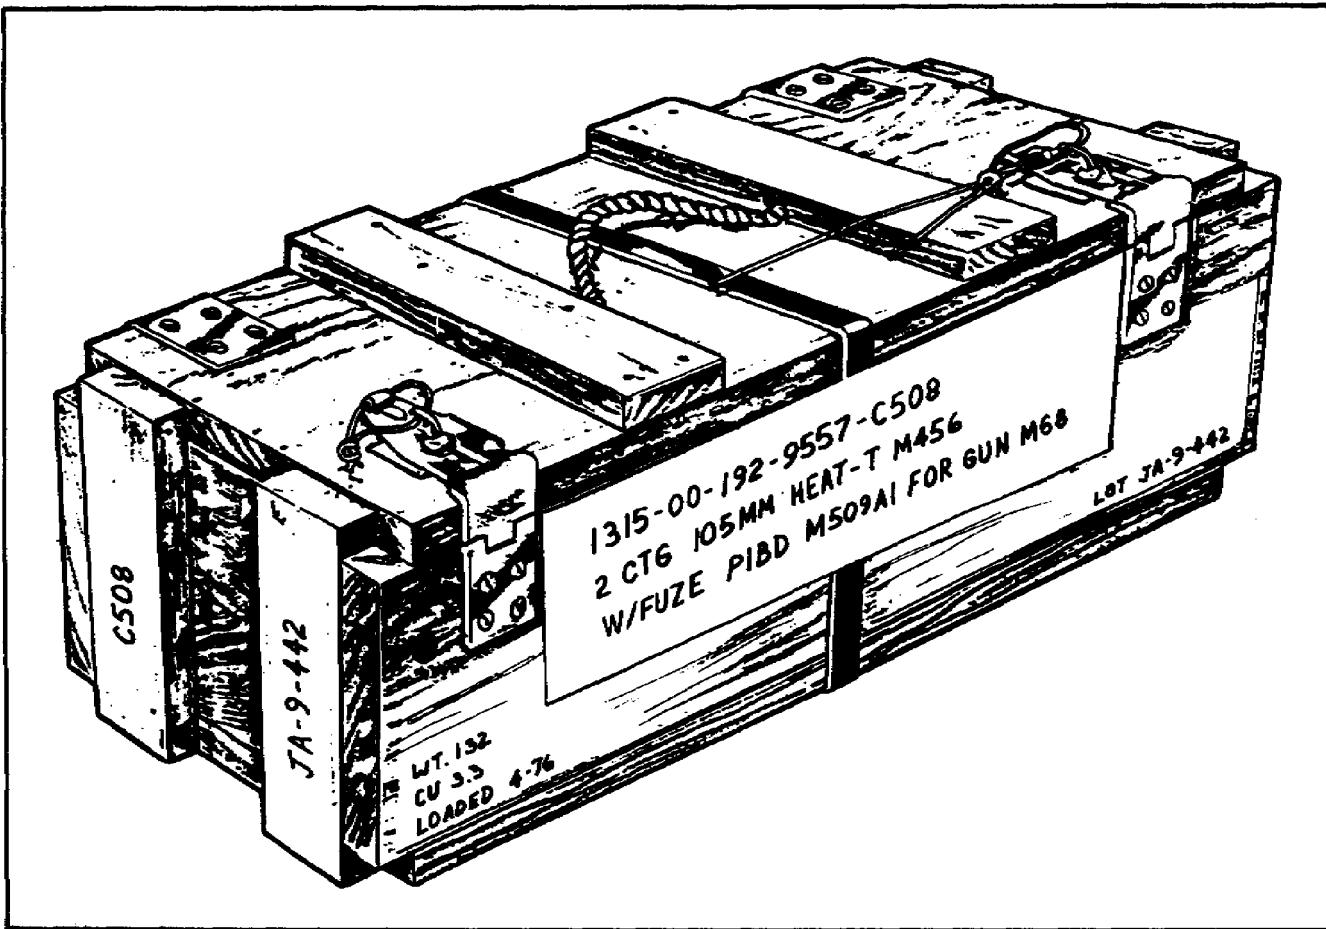
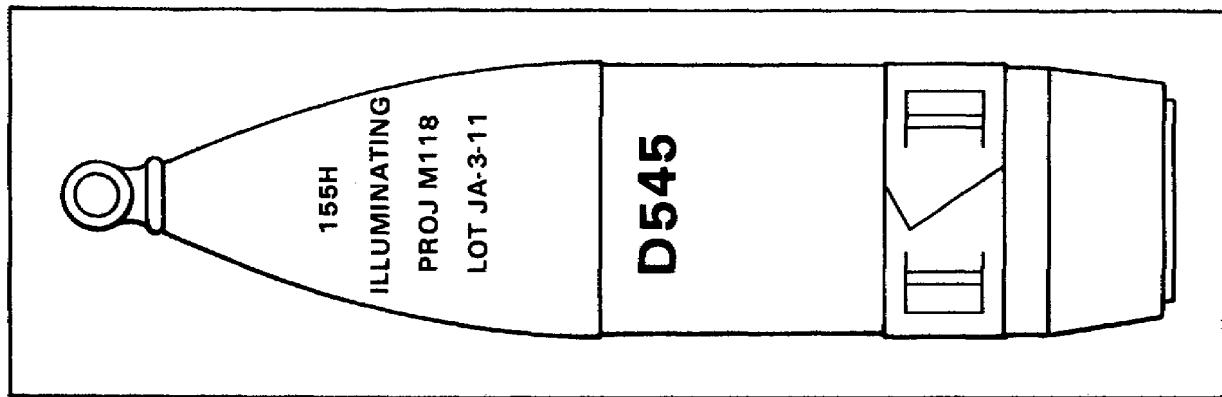

Figure 8. Typical Ammunition Box Markings.
Figure 9. Separate Loading Projectile Markings.
Answer questions 1 through 10 using figure 8 and questions 11 through 15 using figure 9.
18. Toxic chemical (see page 8 and figure 8)